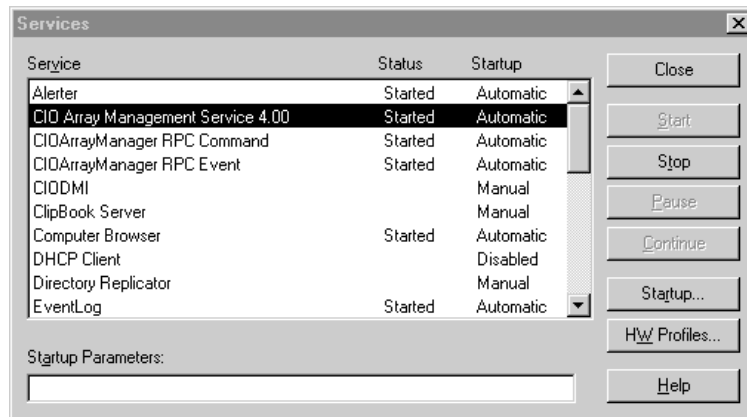

Figure 2-11. Services
- 4 Highlight the CIO Array Management Service 4.00 and click **Stop**, as shown in Figure 2-11.
- 4 Highlight **CIO Array Management Service 4.00** (see Figure 2-11) and double-click. The Service window will display as shown in Figure 2-12.